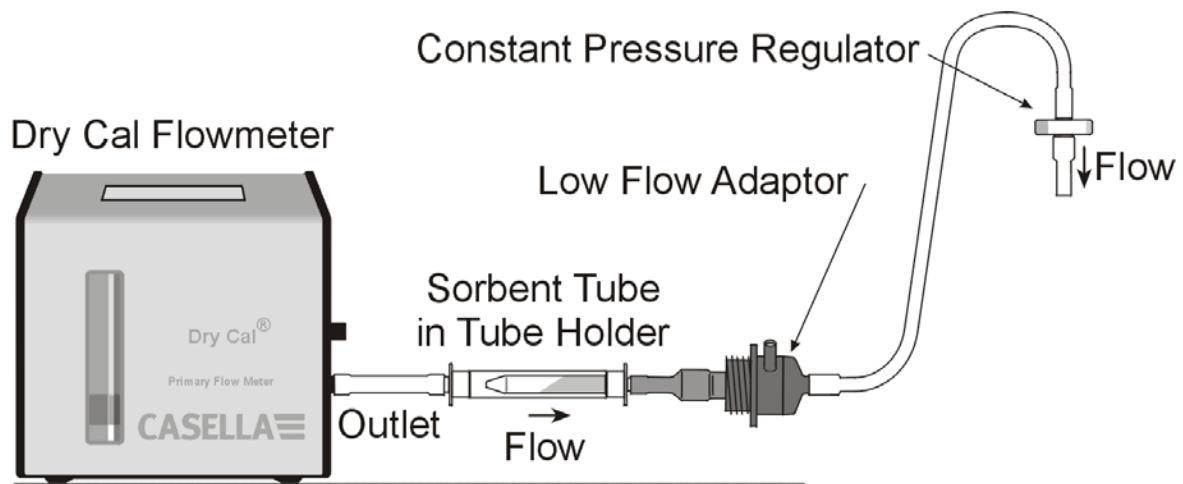

Figure 14 Use with Low Flow Adapter
Note: If the pump is programmed to start sampling at 08:00 on Monday and the pump is not switched ON until 08:10 on Monday it will not run until the **next** Monday at 08:00. This example assumes the intention is to run the pump for 4 hours, then pause for 1 hour, and then resume running for another 4 hours. Use the UP/DOWN keys to step through the Stop Mode Menu Options (See Fig. 14 for details) until PRG1 screen is displayed.
K.USE WITH LOW FLOW ADAPTOR (Fig 14)
3. Starting from the TUFF inlet, connect the following: constant pressure regulator, low flow adaptor, sorbent tube holder and a flow meter such as the Dry Flow or Dry Cal shown in Figure 14.